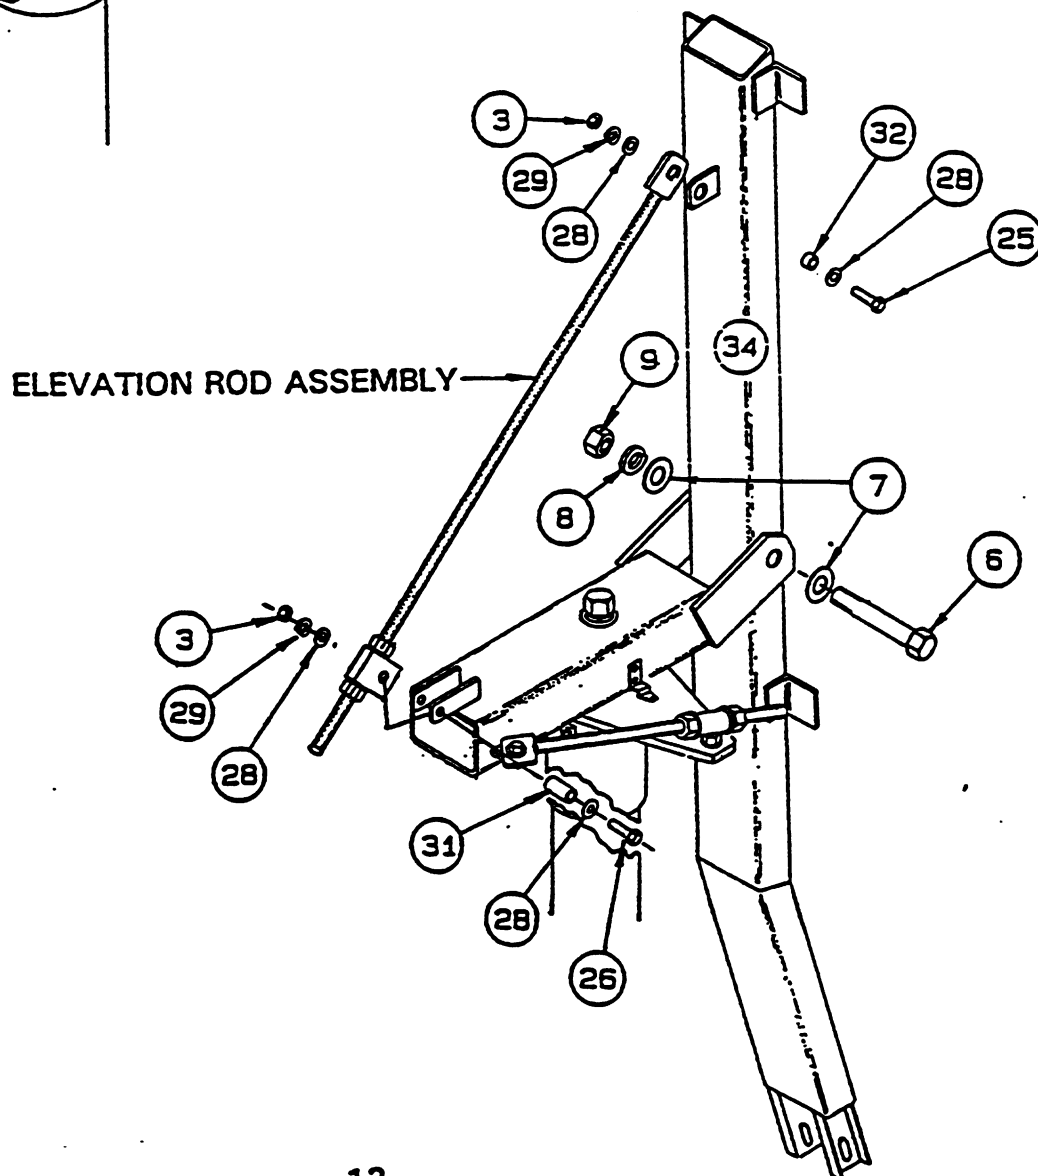
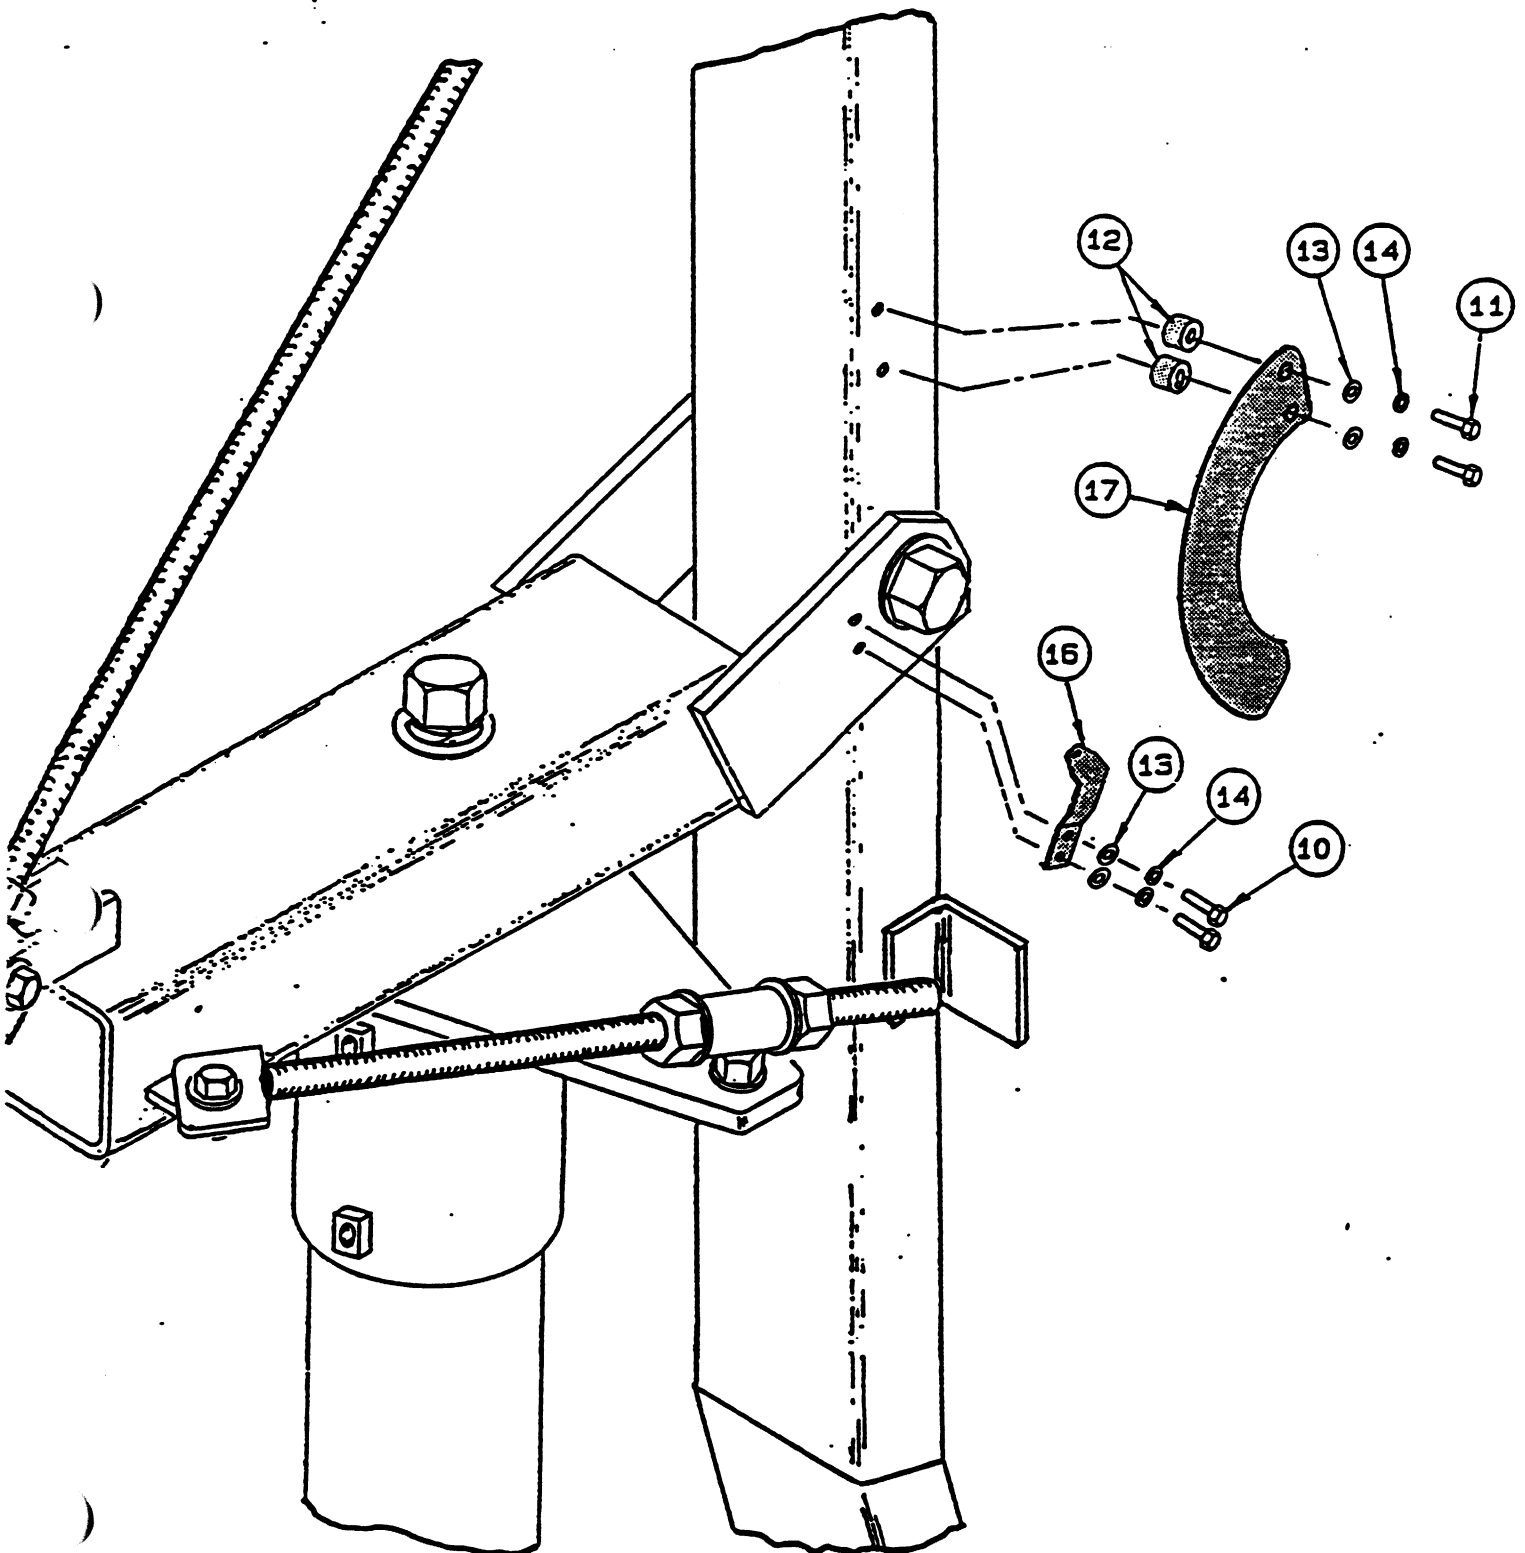

FIGURE 2.1-7
FIGURE 2.1-8
- 7) Attach the elevation marking plate to the reflector support tube, place the spacers between the reflector support tube and the elevation marking plate. Mount with (2) #10 x 1.00" self-tapping screws, flatwasher, and lockwasher, and nut. Reference figure 2.1-7. Note: Tighten only until lock washers are flattened.
- 8) Attach the elevation pointer to the tab on the front of the positioner using (2) #10 x .50" self-tapping screws, flatwashers, and lockwashers. Reference 2.1-7. Note: Tighten only until lockwashers are flattened.
- 9) Attach the reflector cross arms to the reflector support tube with 1/2-13 x 1-1.50" carriage bolts, flatwashers, lockwashers and nuts. Reference Figure 2.1-8. Note the orientation of the reflector mounting holes, the inner most holes on the cross arm flanges will be to the top and the bottom of the reflector.